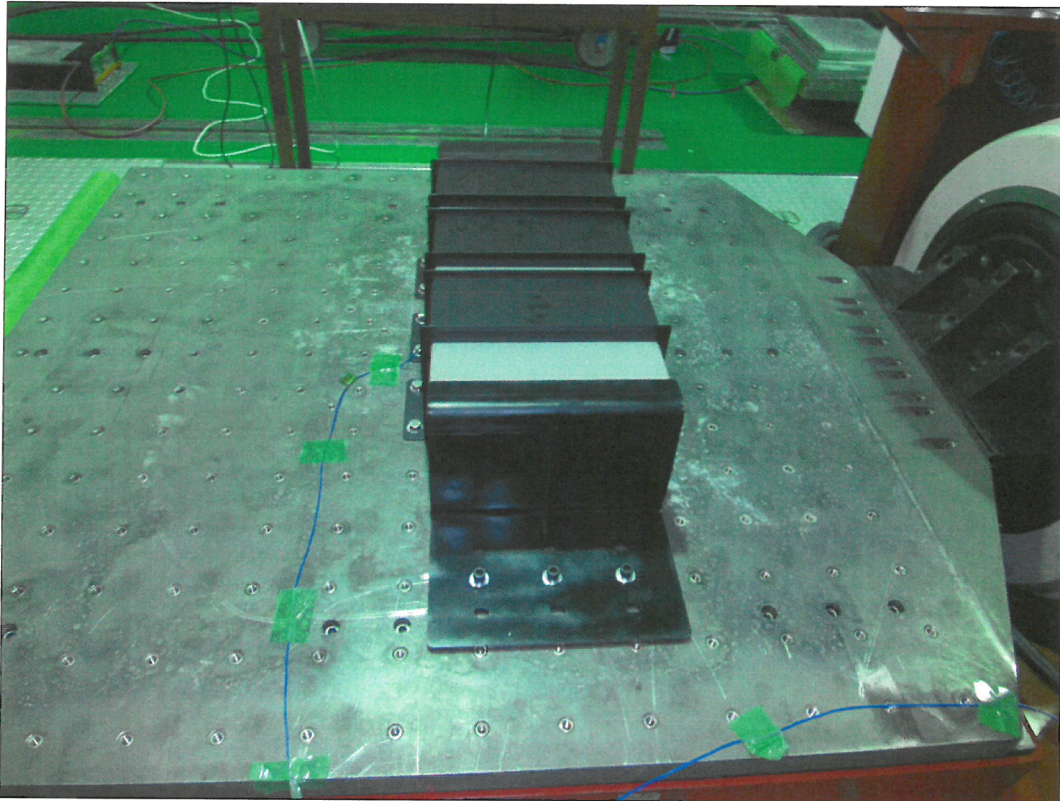

Fig.3 Show the DUT of X axis vibration test
- Fig.3 Show the DUT of X axis vibration test.